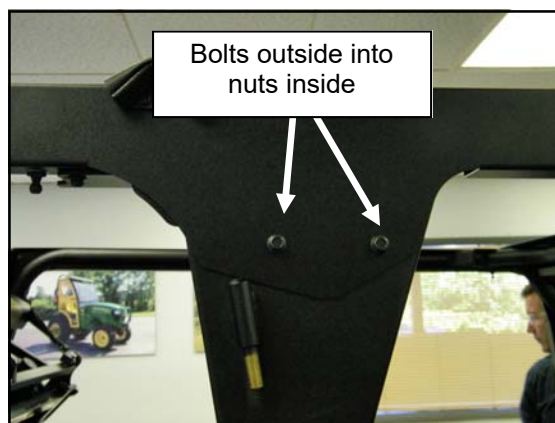

Fig. 7.2 (Header to B-pillar)
7.2 Per figure 7.2, attach the header to the B-pillar with (2) 1/4-20 bolts and nuts per side, with nuts on the inside of the panel. Leave loose.